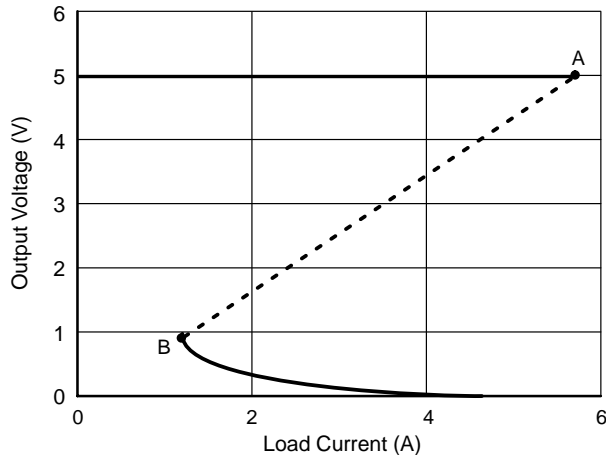

Figure 9. Overcurrent In a 5.0 V Output Converter Using Soft Hiccup
The effect of the soft hiccup can be observed in Figure 9, which shows the output voltage as load increases. The output is maintained at the regulation value of 5.0 V until it goes into current limit. At the point of overcurrent inception (A), the current limit level changes to a lower level (B). The switchback to a lower current limit level can be seen as the bottom curve in Figure 9.